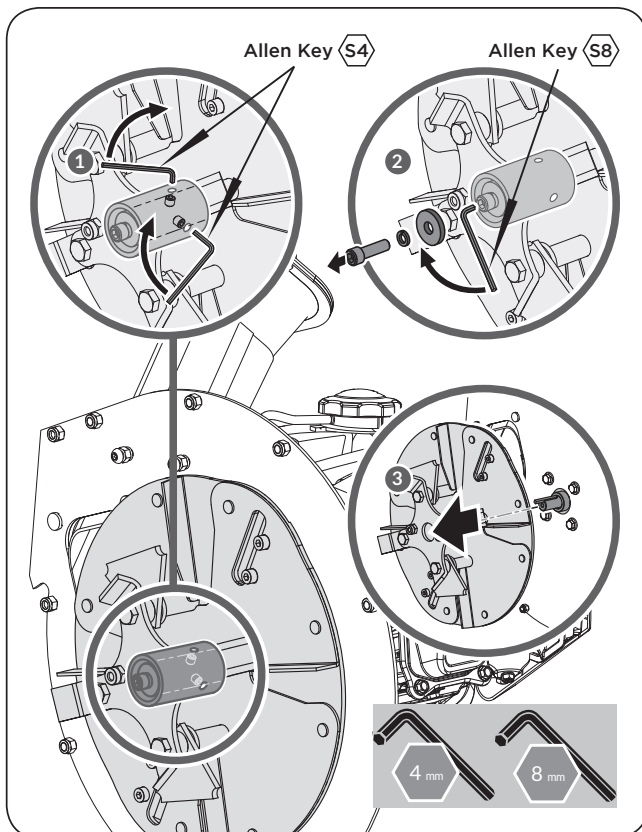

Figure 13
5. Using Allen key S4 to remove the two screws on top of engine shaft bushing. (See **Figure 13, illustration 1**)
6. Using Allen key S8 to remove the socket head cap screw fixing the engine shaft. (See **Figure 13, illustration 2**)